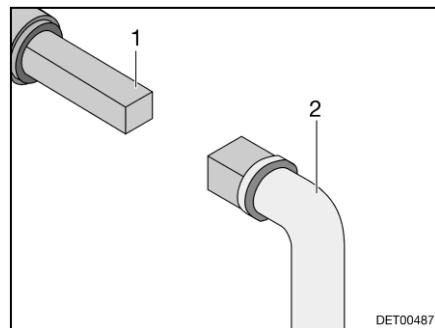

Fig. 73 Operation of the waste water tap
- Place key (Fig. 73,2) onto the square bolt (Fig. 73,1).